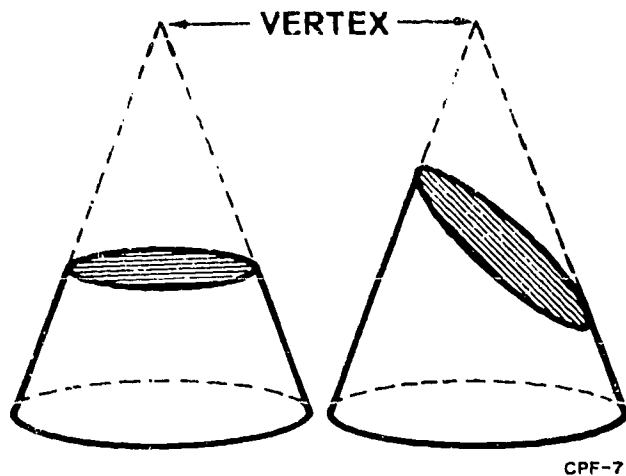

Figure 1-78. Truncated cone.
**Right cone.** Developing a pattern for a cone is somewhat simpler than for a pyramid because the true height and slant height are the same. The radial line method of pattern development is used also for whole cones or truncated cones with the tops cut off, as shown in figure 1-78. A cone